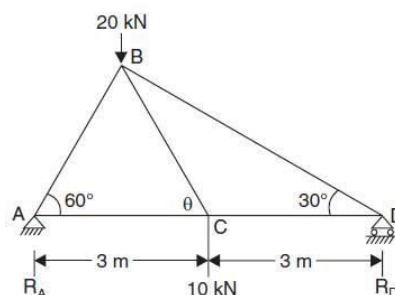

Fig.31
5. Determine the forces in all the members of the truss shown in Fig.31 [L5] [6M]